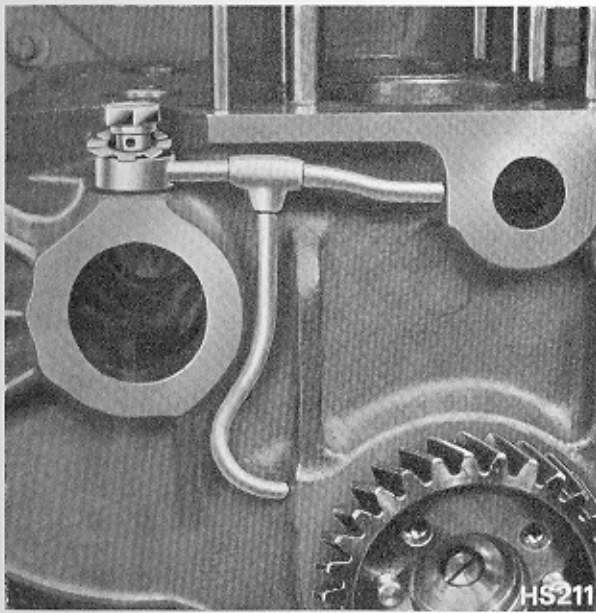

Fig. 59 Oil Pipe to Camshaft Bush
- (j) Remove lubricating oil supply pipe plug—with tab washer—from camshaft locating bush (Fig. 59).